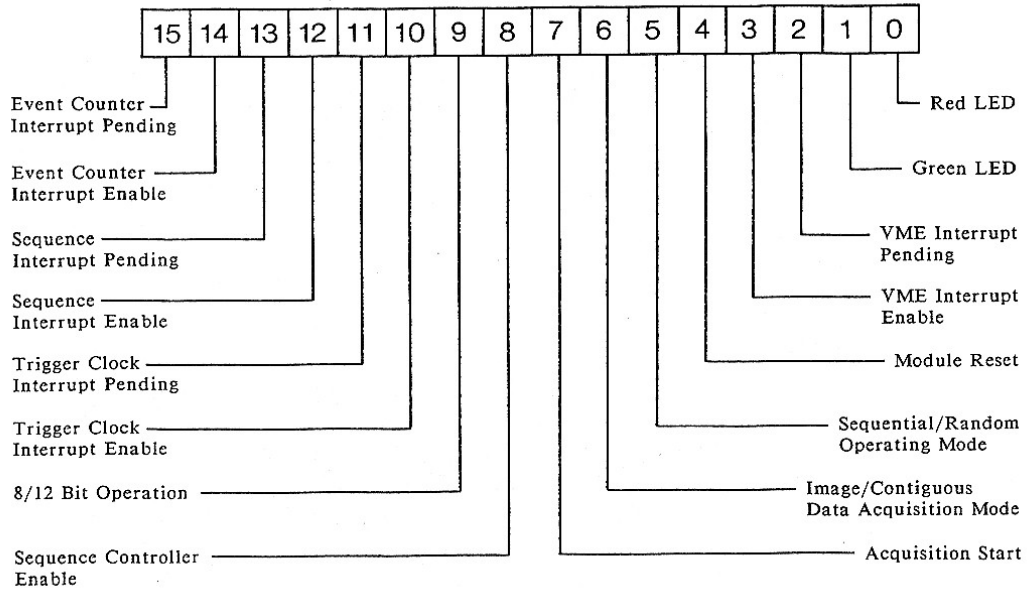

Figure 4-2
- Status/Control Register Bits (Figure 4-2)